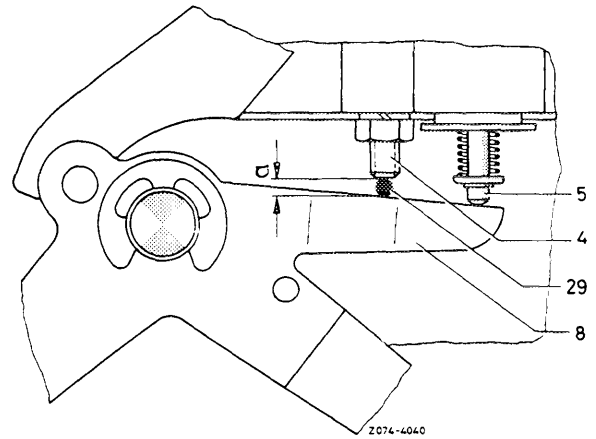

Fig. 07–4/15
The venting valves (5) are adjusted by the manufacturer to 2.8–0.3 mm lift. The adjusting screw (4) is simultaneously the idling speed stop and should therefore not be adjusted. To check whether the adjusting screw (4) has already been adjusted by mistake, turn actuating lever (8) with the choke opened to the point where it is just impossible to lift the venting valve any further. Then measure the distance between the stop screw (4) and the actuating lever (8); use plug gauge (29) (twist drill) of 2.3 mm dia. for this purpose (Fig. 07–4/16).
Remove closing cover (28) for adjusting stop screw (4) (Fig. 07–4/15).